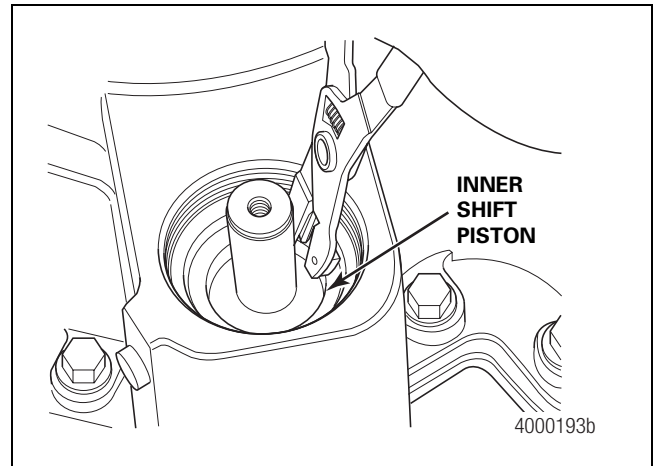

Figure 4.16
5. To remove the inner piston, reinstall and hand tighten the shift cylinder. Apply air to the high gear input port. When the air pressure pushes the inner piston UP, remove the snap ring and inner piston. Figure 4.16.